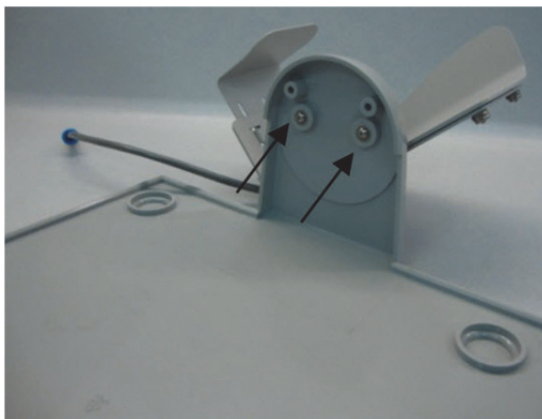

Figure 2
- B. Attach the water bottle holder to the base tray using the (2) small screws and small hex key. See figure 2.